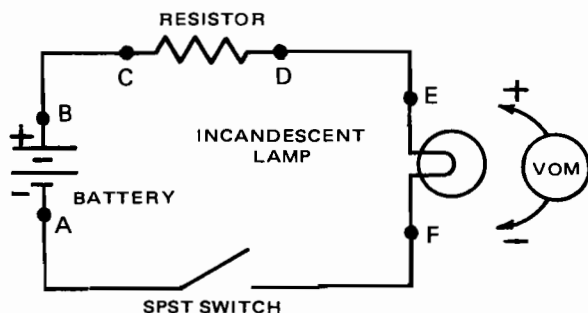

Fig. 3-1-1
8. Fig. 3-1-1 shows a symbol drawing of a simple electric circuit that is to be tested with indicated VOM.
9. To measure voltage of battery in Fig. 3-1-1, connect negative terminal of VOM to test point _____, while the positive terminal of meter would connect to test point _____.